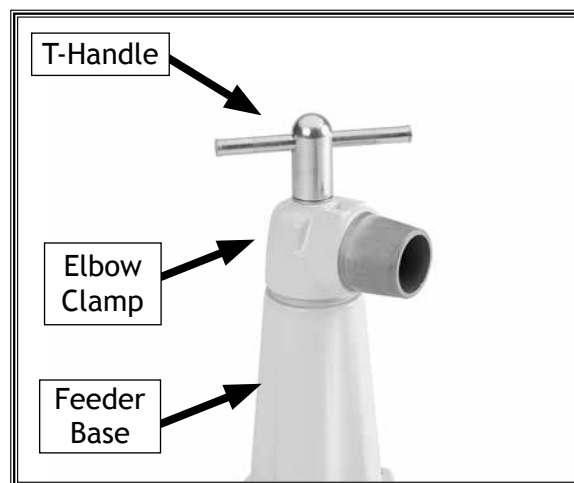

Figure 26. Assembled elbow clamp assembly.
1. Oil the T-handle threads and position the elbow clamp assembly onto the feeder base, as shown in **Figure 26**.